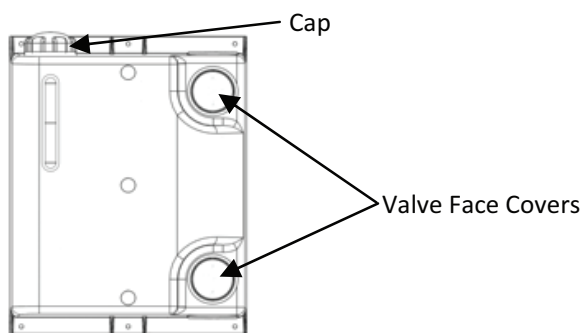

Figure 8: Geo-Prime Cap and Valve Face Covers
1. Remove *Geo-Prime Tank* and Valve Face Covers and tank fluid cap (Figure 8).